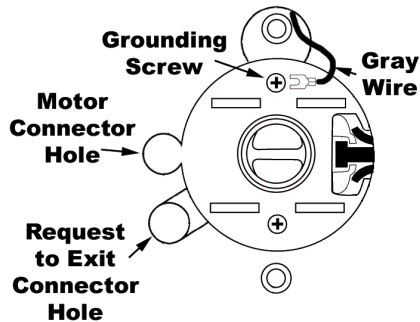
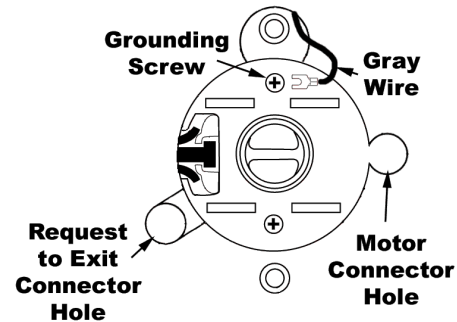

Figure 2-41 - Ground Wire Connection & Wire/Connector Holes
Figure 2-42 - Ground Wire Connection & Wire/Connector Holes
- 2.14.1 Connect the Gray Wire (spade lug end) from the Transceiver Base to the Grounding Screw on the Lock Housing (Figure 2-41 or Figure 2-42).
- 2.14.4 Insert the mated Motor Connector into the Motor Connector Hole (Figure 2-41 or Figure 2-42). **Pack and dress the Motor Cable so that the Inside Rose will not pinch it.**
- 2.14.5 Insert the mated Request to Exit Connector into the Request to Exit Connector Hole (Figure 2-41 or Figure 2-42). **Pack and dress the Request to Exit Cable so that the Inside Rose will not pinch it.**